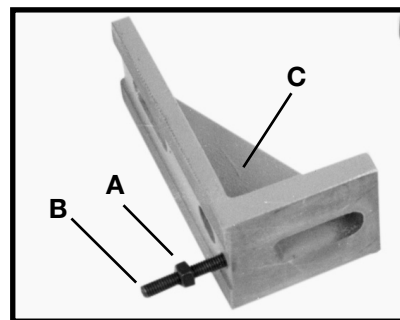

Fig. 3
1. Thread M8 Hex Nut (A) Fig. 3 on M8 X 55mm Socket Set screw (B). **NOTE:** For wood lathe model 46-715 or 46-745, parts (A) and (B) are not used here. Screws (B) are used later. (See "ATTACHING DUPLICATOR TO WOOD LATHE" in this document).
2. Thread the socket set screw (B) Fig. 3 with hex nut (A) into the tapped hole in both mounting brackets (C).